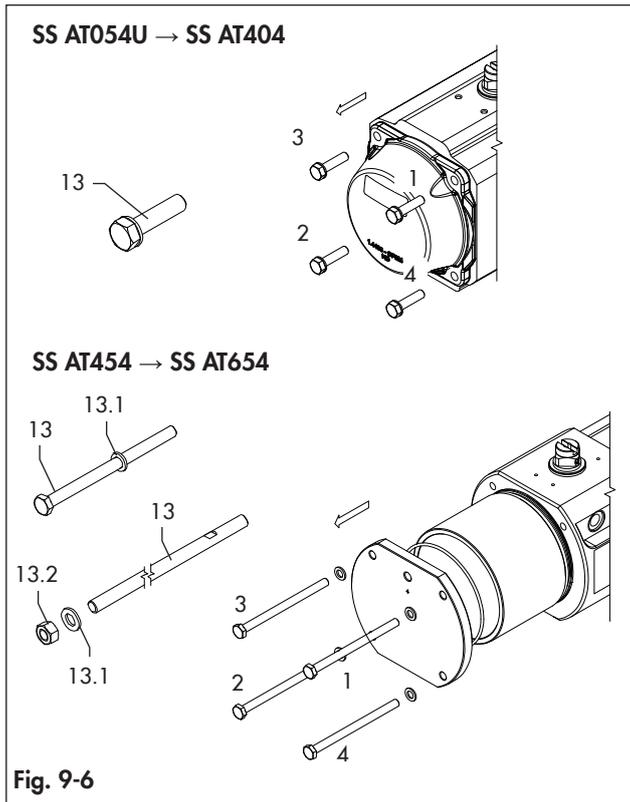
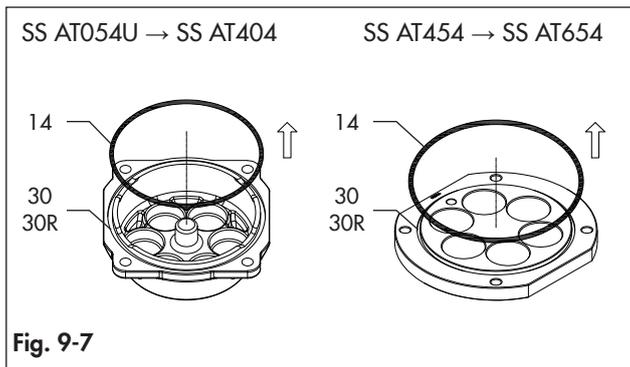

Fig. 9-6
Fig. 9-7
Refer to Fig. 9-1, Fig. 9-2, Fig 9-6 and Fig 9-7.
- Observe the specified sequence shown in Fig. 9-6.
- Release the springs compression by partially unscrewing each end cap screw (13) or nut (13.2) 1 turn at a time as per the sequence shown in Fig. 9-6 for the number of turns indicated in Table 9-3.
- Completely unscrew and remove the end cap screws (13) or nuts (13.2).
- Remove the tie rods (13), if any.
- Remove the spring cartridges (17).
- Remove the o-rings (14). (Fig. 9-7)